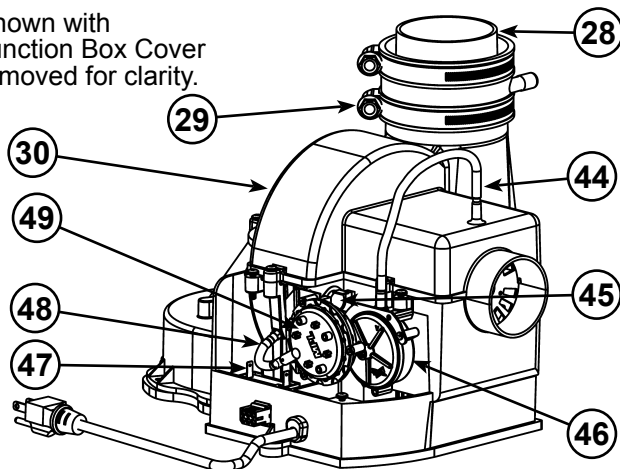

Figure 5.
| 8 T&P Valve   | 25 Baffle Assembly   | 44 Air Tubing (Intake) (see Figure 5)                           |
| 9 * Discharge Pipe  | 26 Hot-Water Outlet Nipple/Anode   | 45 Blower High Limit Switch (see Figure 5)                      |
| 10 **Combo Heating System Return Inlet (Optional)                       | 27 *Inlet Water Shut-off Valve   | 46 Intake Air Pressure Switch (NC) (inside box) (see Figure 5)  |
| 11 Gas Control Valve/Thermostat (Honeywell)                             | 28 ****Rubber Coupling (see Figure 5)  | 47 Capacitor (see Figure 5)                                     |
| 12 Gas Valve Electronic Control Module And Cover (Honeywell)            | 29 Gear Clamp (see Figure 5)   | 48 Air Tubing (Exhaust) (see Figure 5)                          |
| 13 Drain Valve  | 30 ***Blower with Power Cord (see Figure 5)  | 49 Exhaust Air Pressure Switch (NO) (inside box) (see Figure 5) |
This device is located on the blower (see Figure 5, item 45) and limits the maximum temperature of the blower. If the blower temperature rises above the temperature setting, the switch opens causing the heater to shut down.
The blower/heater is equipped with two air pressure switches located in the junction box (see Figure 5, item 46 and item 49). These devices are connected in series and monitor the air pressure produced by the blower. In the event that the exhaust venting becomes blocked or sufficiently restricted, the normally open (NO) air pressure switch will shut down the heater. In the event that the intake pipe becomes sufficiently blocked or restricted, the normally closed (NC) air pressure switch will shut down the heater.